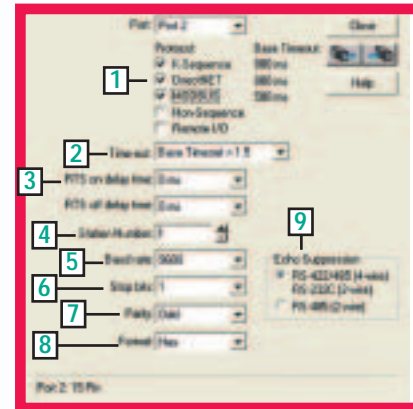

Figure 2
The setup window (shown in figure 2) will appear.
#### Standard Protocols (figure 2)
You will notice in figure 2 that K-sequence, DirectNET and MODBUS protocols (1) are all checked by default. These are the default protocols for the slave PLCs discussed in part one of this article. Select the desired protocol.